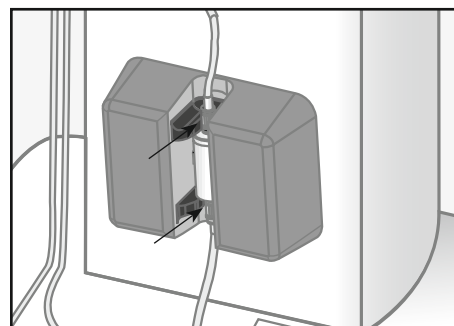

Figure 3.4: Separation column in separation column holder
1. Insert the separation column into the separation column holder as follows to avoid possible pinch injury: Hold the top and bottom of the column between thumb and index finger, then carefully insert the separation column into the separation column holder (see Figure 3.4).